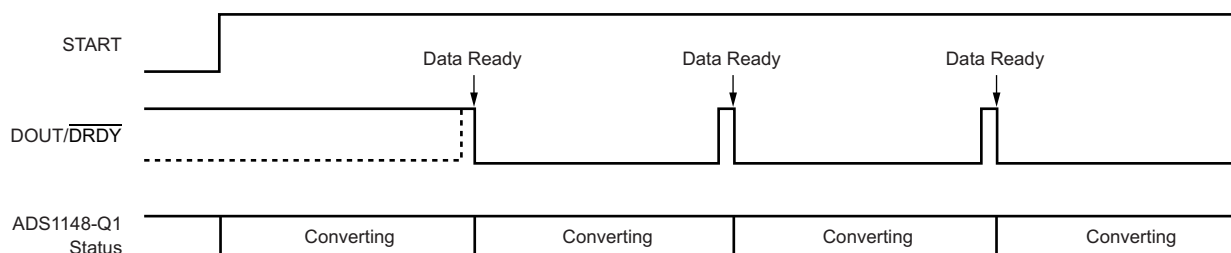

**Figure 36. Timing for a Single Conversion Using the START Pin**
The START pin provides precise control of conversions. Pulse the START pin high to begin a conversion, as described in Figure 36 and Table 9. The conversion completion is indicated by the  $\overline{\text{DRDY}}$  pin going low and with the DOUT/ $\overline{\text{DRDY}}$  pin when the DRDY MODE bit is 1 in the IDAC0 register. When the conversion completes, the device automatically powers down. During power down, the conversion result can be retrieved; however, START must be taken high before communicating with the configuration registers. The device stays powered down until the START pin is returned high to begin a new conversion. When the START pin returns high, the decimation filter is held in a reset state for 32 modulator clock cycles internally to allow the analog circuits to settle.
Table 9. START Pin Conversion Times for Figure 36 (1)